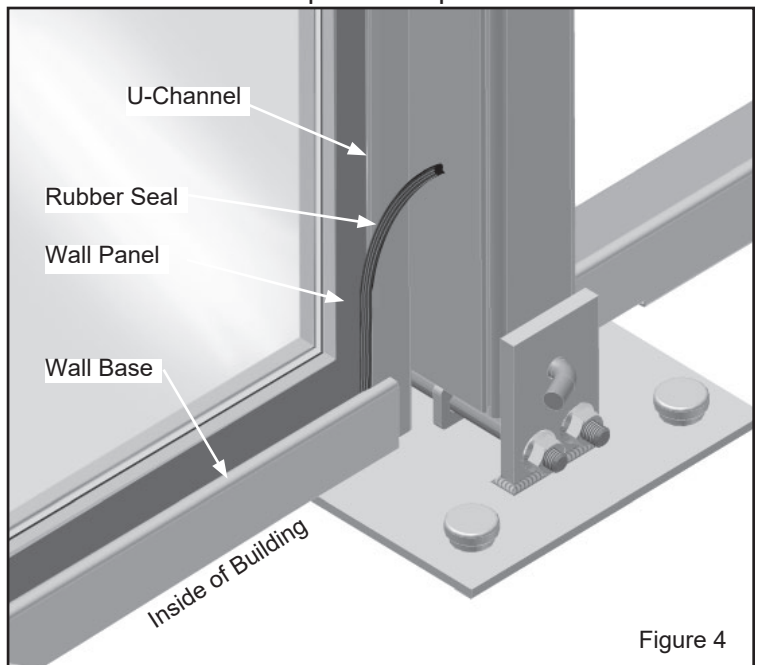

Figure 4
14. Finally, install the rubber seals between the U-Channels and the interior face of the wall panels. Note: It's best to begin engaging the seal at either the top or the bottom and work to the opposite end. See Figure 4.